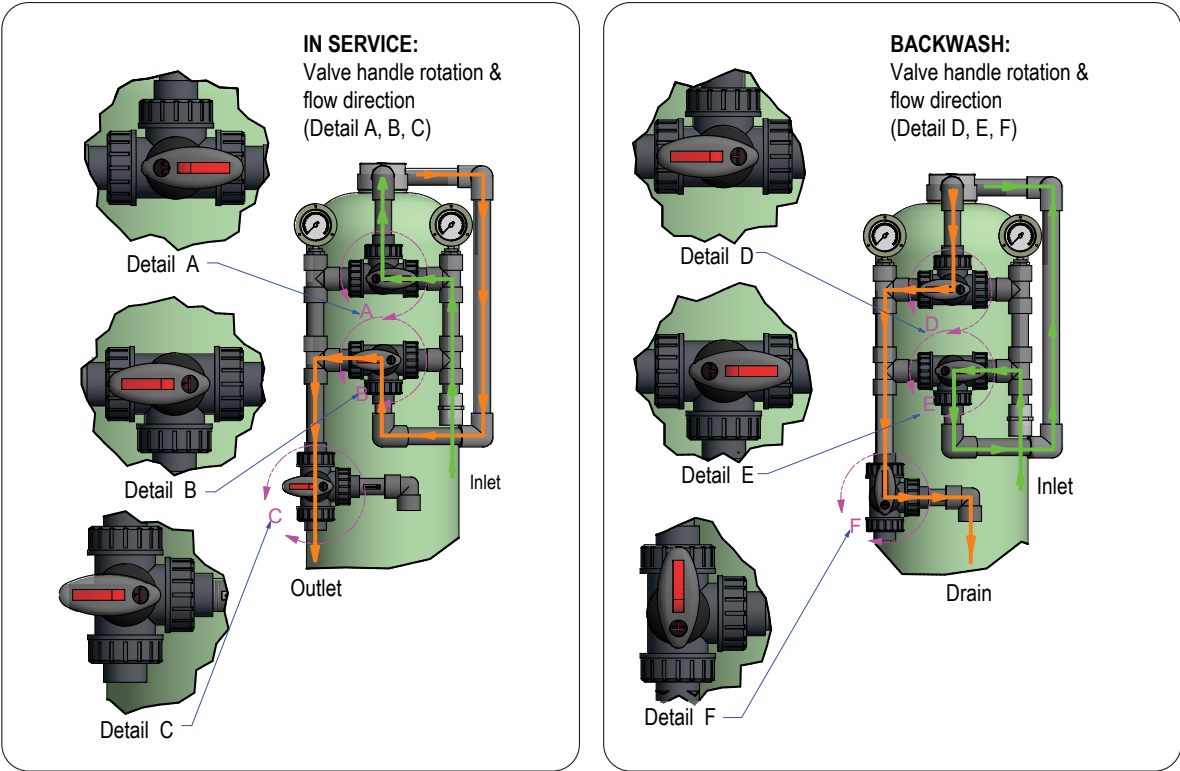

Figure 36: Manual Multimedia Filter Valve Settings
To select the mode for manual multimedia filters, set the hand valves to IN-SERVICE or BACKWASH (*Figure 36 on page 61*) when seawater is not flowing through the manual multimedia filter. For systems with push button control, refer to *page 62* for operational details. If your system has the V4 Control, the system will send an alarm to the touchscreen whenever a backwash is needed; refer to *page 63* for V4 Control operational details.
2. With no seawater is flowing through the manual multimedia filter, turn its valves to BACKWASH (*Figure 36 on page 61*).
4. When the watermaker returns to standby and no seawater is flowing through the manual multimedia filter, place the multimedia valves to IN-SERVICE to ready the watermaker for its next run cycle (*Figure 36 on page 61*).